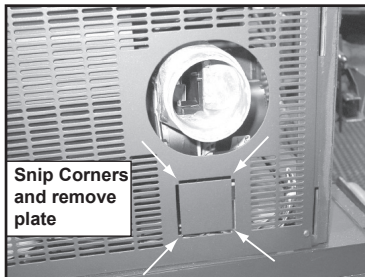

Figure 20.1
- Snip corners and remove plate. **Figure 20.1.**